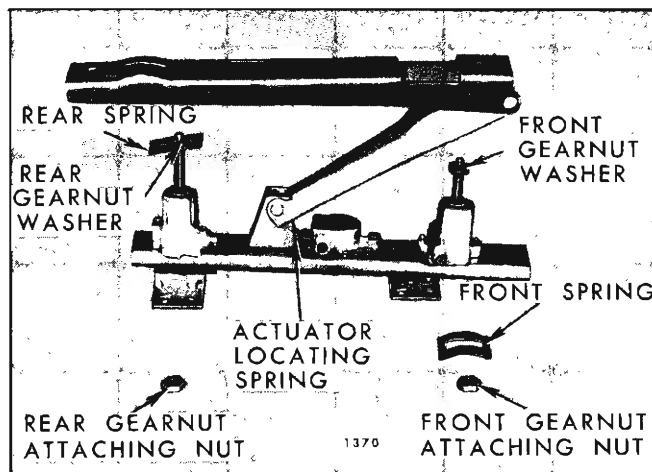

Fig. 1H14—Six-Way Adjuster Gearnuts
4. At top of adjuster, remove front and rear vertical gearnut attaching nuts (Fig. 1H14).
5. Remove front vertical gearnut spring (Fig. 1H14).
6. Lift upward on adjuster upper track; then remove rear vertical gearnut spring (Fig. 1H14).
IMPORTANT: Horizontal actuator is under tension from spring shown in Figure 1H14. When installing actuator, be sure actuator locating spring is properly engaged with actuator assembly.
3. If lower channel is being replaced with a new part, transfer plastic slides to new part (Fig. 1H13).